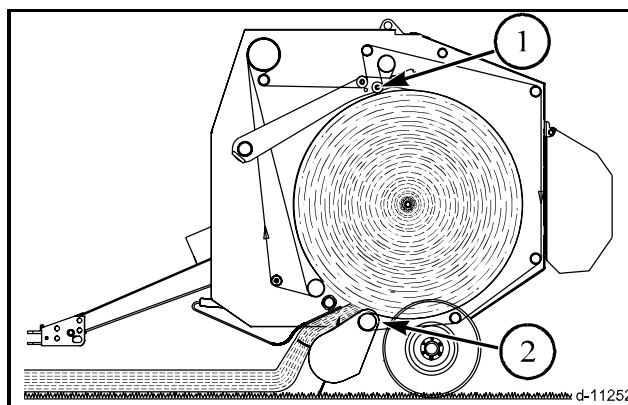

FIG. 3
FIG. 3: The illustration shows the full size bale. The bale density rolls (1) have moved upward, to increase the size of the bale chamber. The bale is on the tailgate carrier roll (2).